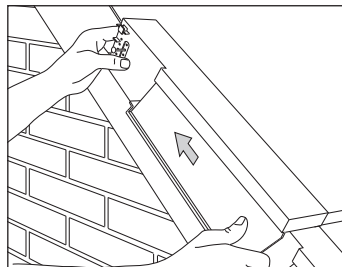

Fig. 5 – Slide up each unit to interlock
- 12 Successive dry verge units are interlocked together by sliding upwards against unit below, ensuring that lugs on outside of verge unit fit into internal locating slots (Fig. 5).